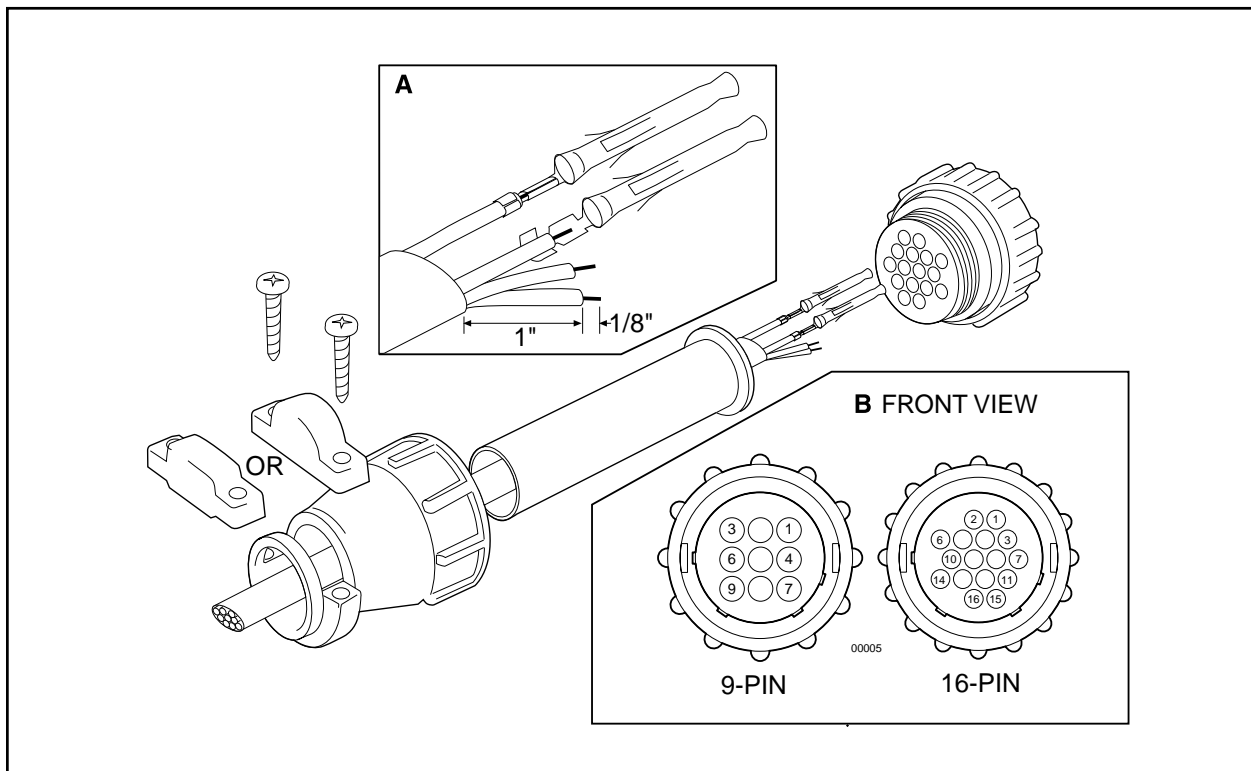
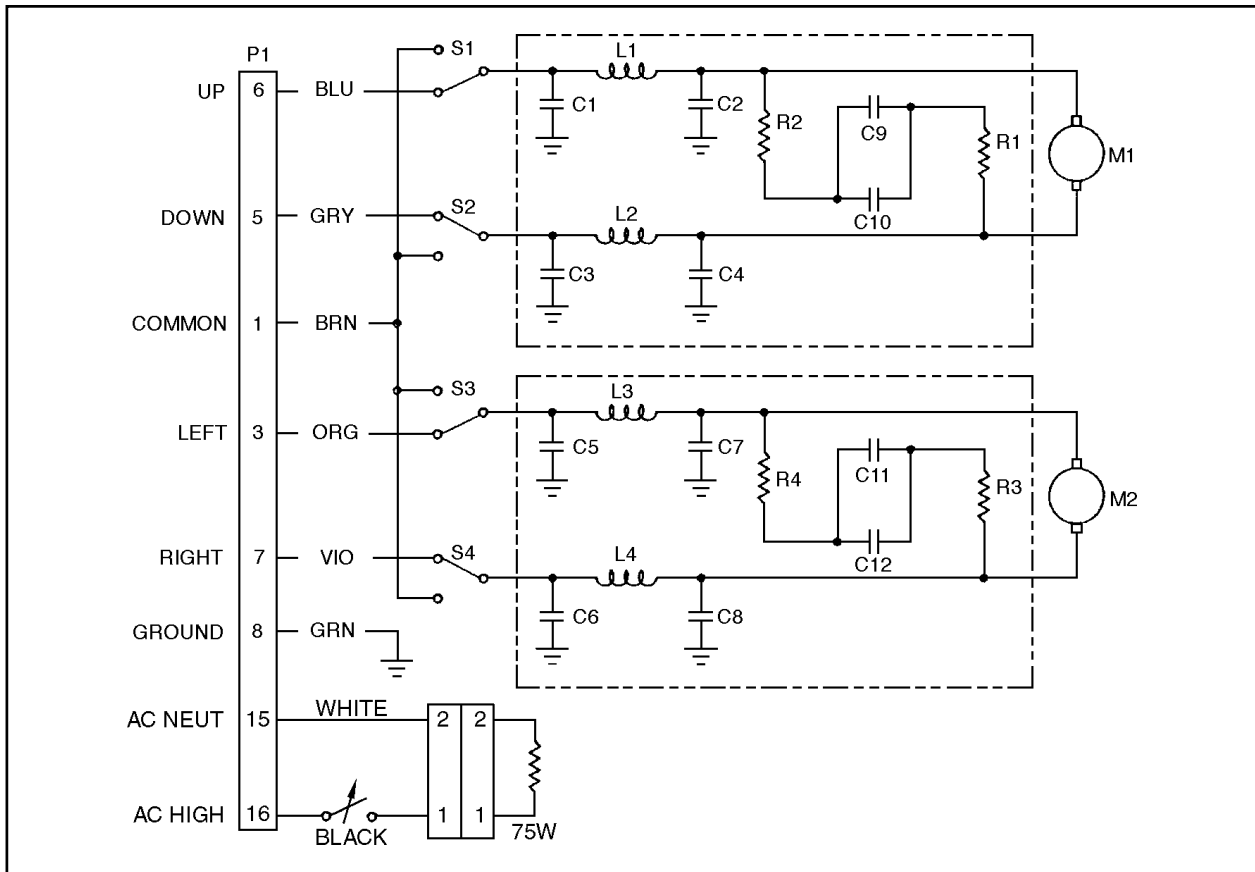

Figure 2. Connector Assembly
Figure 3. PT550P Wiring Diagram (including HB Option)
6/99	Revised Figures 3 & 4 to include wiring for HB option.
To assemble the mating connectors, refer to Figure 2 and perform the following steps.
2. Refer to Detail A in Figure 2. Prepare the wires from the conductor cable as follows:
3. Slide the connector pins into the appropriate holes in the connector body until they snap into place. Refer to detail B in Figure 2 and to Figure 3 or 4 for correct pin arrangement, depending on model and options.
Refer to Figure 3 or 4 for the following steps.